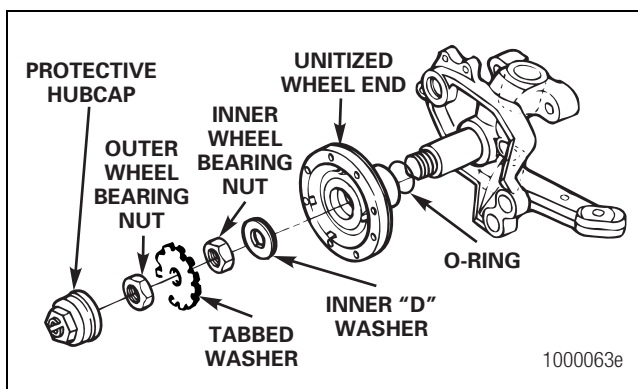

Figure 13.14
- **If the total movement of the dial indicator is 0.003-inch (0.08 mm) or greater:** Remove the outer bearing nut and tabbed washer. Tighten the inner wheel bearing nut to 500-700 lb-ft (679-949 N•m) while rotating the unitized wheel end a minimum of five rotations. Figure 13.14.